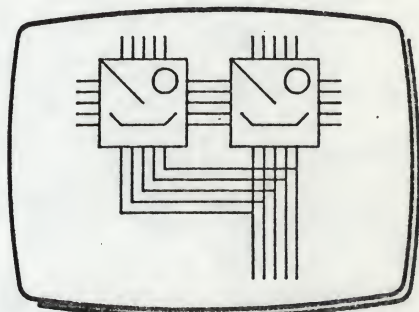

Fig 3
- 6 Using the grid lock points, make connections between symbols (Fig 3).